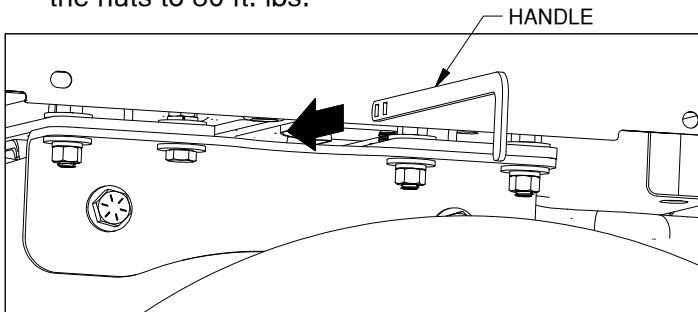
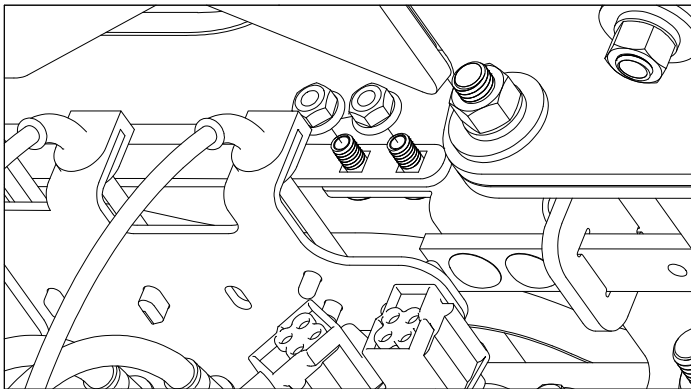

Figure F1: View looking into the driver side wheel well.
Figure F2: View looking up under the bed.
1. **Install handle.** With the handle pointing down, pass the handle under the driver side bed between the cross members, as shown in Figure F1. Under the bed, align the square holes in the handle with the holes in the latch pin handle bracket. Insert a 5/16" carriage bolt in each of the square holes in the handle and secure with a flange nut, see Figure F2. Torque the nuts to 30 ft. lbs.